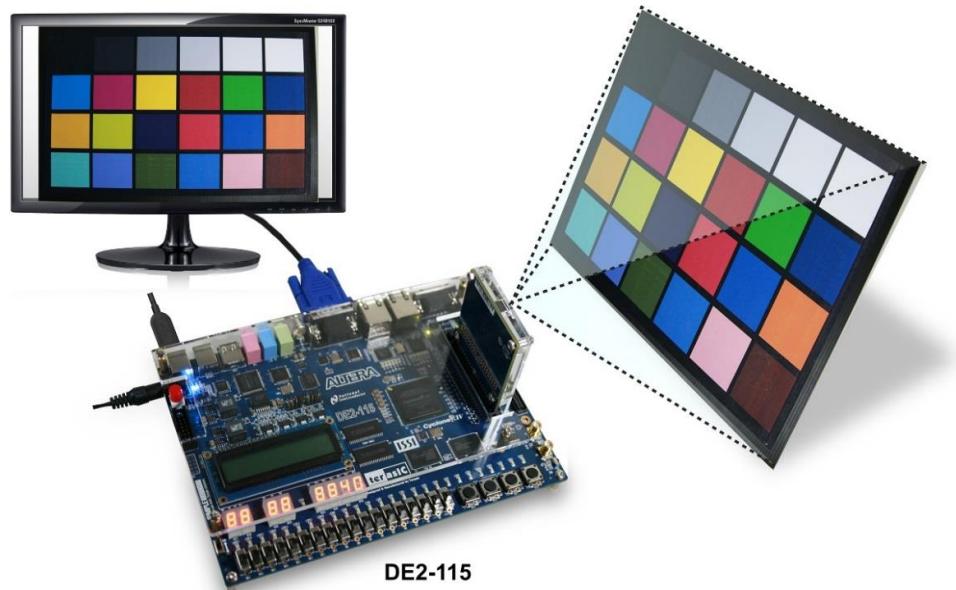

Figure 4-3 DE2-115 demo hardware setting up
As shown in **Figure 4-3**
- Plug D8M onto DE2-115 JP5 (GPIO), connect VGA monitor to J13 (VGA) see **Figure 4-3**.